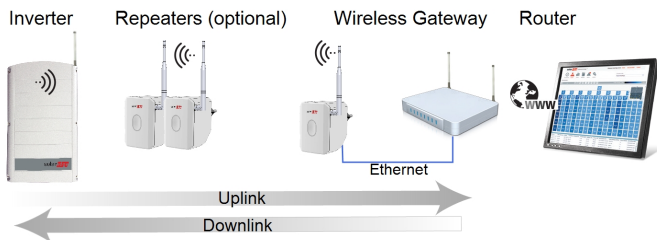

Figure 2: Single inverter, wireless connection
- **Uplink** - communication from the inverter or Wireless Repeater to the Wireless Gateway/Repeater towards the monitoring platform (see *Figure 2*).
- **Downlink** - communication from the Wireless Gateway or Repeater towards the inverter/ Repeater (see *Figure 2*).